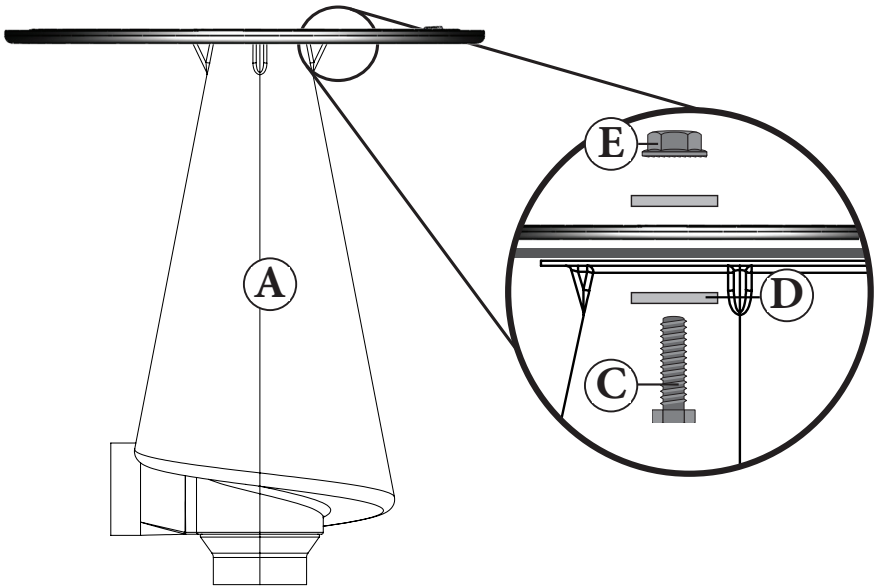

FIG. 3
Turn Cyclone (A) upside-down and align with the drum lid. Secure to the drum lid with six Hex Bolts (C), twelve Flat Washers (D), and six Whiz-Lock Nuts (E) [FIG. 3].